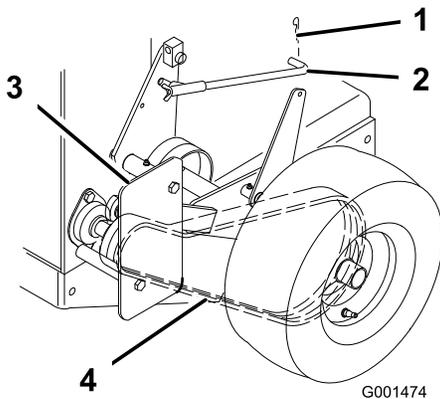

Figure 40
1. Remove hairpin cotter securing brake rod to brake arm to relax belt idler tension (Figure 40).
2. Remove bottom and loosen top bolts of shield to rotate for belt clearance (Figure 40).
3. Lift the belt past idler and off the drive pulley (Figure 40).
6. Secure shield with previously removed bolt and tighten bolts (Figure 40).
7. Secure brake rod to brake arm with hairpin cotter (Figure 40).